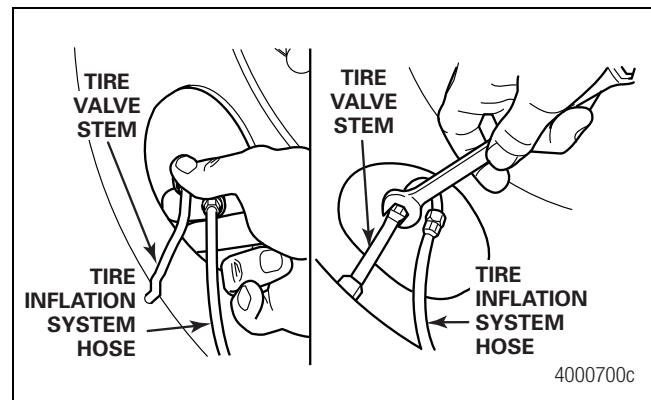

Figure 2.50
- Hand-tighten the tire inflation system hoses to the tire valve stems. Then use a 7/16-inch wrench to tighten the connections an additional half-turn. Figure 2.50.